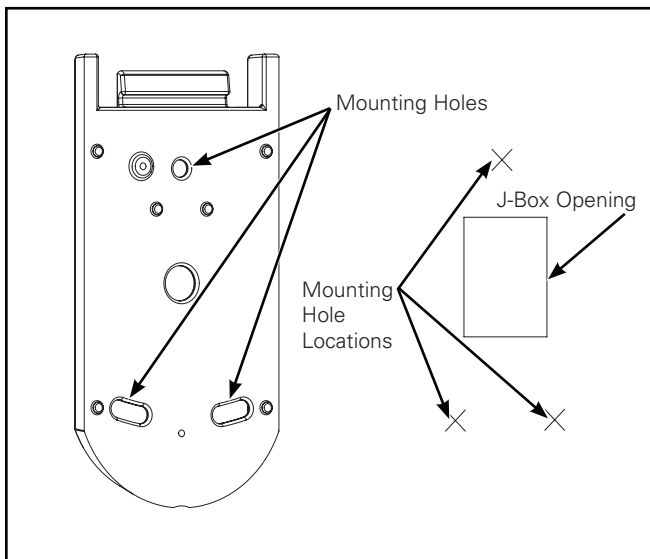
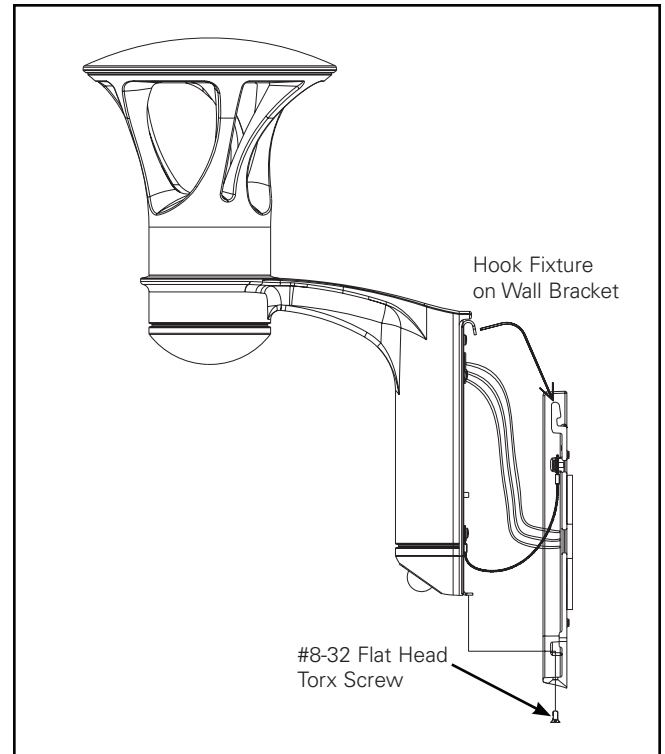

Figure 1.
Figure 5.
### How to Install (Figure 1. – Figure 5.)
1. Using wall mount plate as template, drill three holes into wall (Figure 1). Mount plate to wall with appropriate wall anchors (not provided) – make sure that gasket is seated against J-box.
7. Lift luminaire and hook into wall plate and then slide Luminaire down. Lock luminaire in place with the supplied #8-32 countersink socket screw. (Figure 5.)